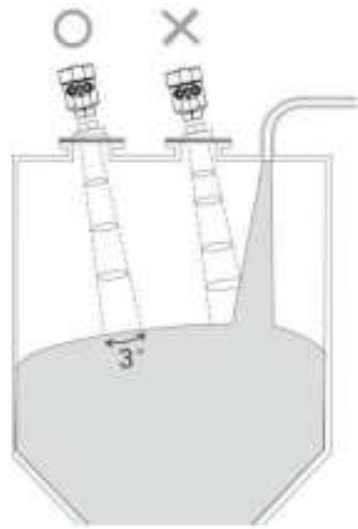

Figure 4-2 Keep Beam Away from Filling Inlet
- ***The instrument should be installed so that the antenna beam avoids the inlet, as shown in Figure 4-2.***